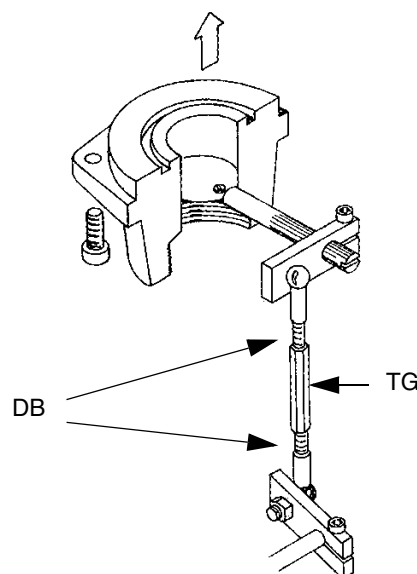

Fig. 29
- 3 Drive the burner to low flame. In order to alter the gas flow rate slacken the nuts DB (Fig. 29) and adjust the opening angle of the gas throttle valve by rotating the rod TG (clockwise rotation increases gas flow, anticlockwise rotation decreases it). The slot on the throttle valve shaft shows the opening degree of the valve with respect of the horizontal axis (Fig. 30).